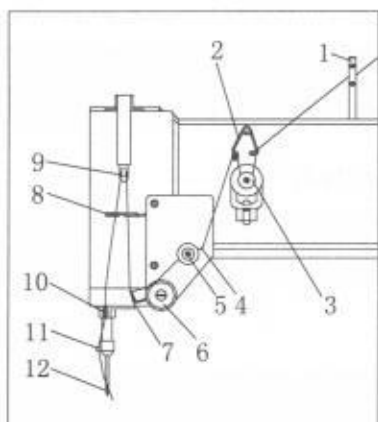

Fig 1
-- Thread the needle thread by the path indicated in Fig 1.
- (1) Threading rod (2) Guiding ring (3) Thread gripping holder (4) Positioning pin
(5) Thread tighter (6) Upper threading wheel (7) Take-up spring (8) Threading ring
(9) Thread take-up lever (10) Lower threading wheel (11) Needle holder (12) Needle